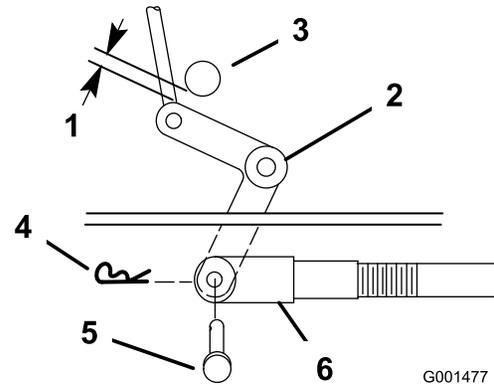
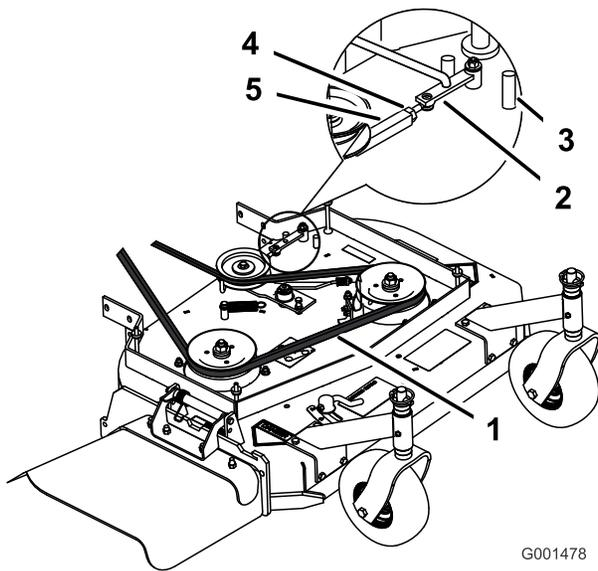

Figure 42
Figure 43
9. Check the clearance between the bell crank and the transmission output shaft (Figure 42).
11. Rotate the clevis clockwise on the rod to increase the clearance; rotate it counterclockwise to decrease it (Figure 42).
Note: If the assist arm does not contact the front stop on the mower deck (Figure 43 or Figure 44), adjust the clevis to bring the bell crank closer to the transmission output shaft (Figure 42).